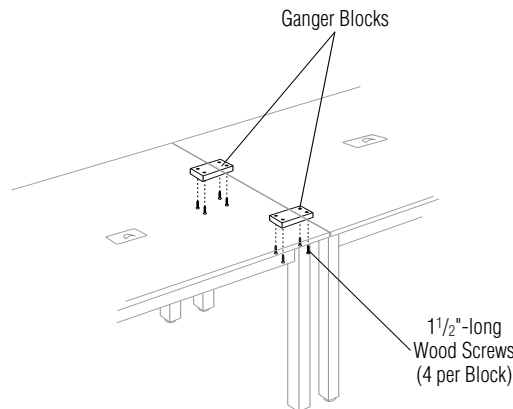

Figure 5
6. For ganged and/or electrically interconnected tables, attach two wood ganger blocks with 1½"-long wood screws to the underside of the table top on each end (Figure 5).
Note: round 4-leg tables cannot be ganged or electrically interconnected (Figure 5).